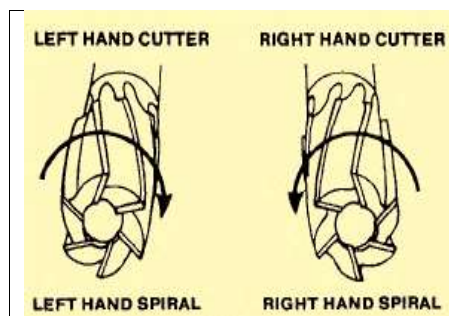

Figure 8-3. Left and right cutters.
**Types of Teeth:** The teeth of milling cutters may be **right-hand** or **left-hand** rotation, and with either right-hand or left-hand helix. The hand of the cutter can be determined by looking at the face of the cutter when mounted on the spindle. A **right-hand** cutter must rotate counterclockwise; a **left-hand** cutter must rotate clockwise. The right-hand helix is shown by the flutes leading to the right; a left-hand helix is shown by the flutes leading to the left. The direction of the helix does not affect the cutting ability of the cutter, but take care to see that the direction of rotation is correct for the hand of the cutter (Figure 8-3).